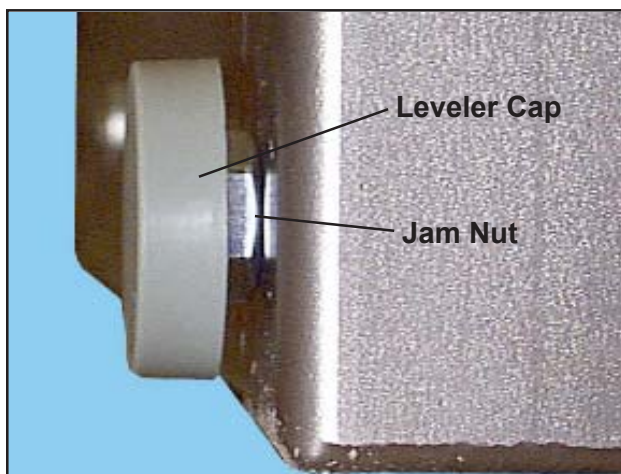

Figure 12. Leg leveler in a Skid Bolt Hole
3. Screw the two leg levelers all the way into the pallet bolt holes (Figure 12).